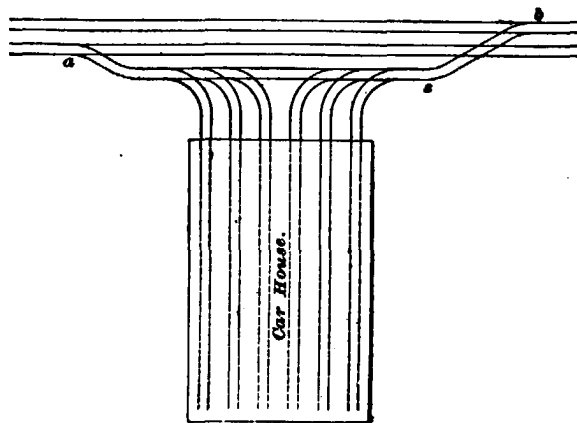

FIG. 18.
39. When the car house is situated near the street line, the several tracks running into it should not start from the main line, but a siding *s*, Fig. 18, should be laid out so that through cars need not go over so many switches. Those from the left pass over the switch *a* only, those from the right over *b* only, saving some amount of wear and tear on car wheels and greatly prolonging the life of the switches.